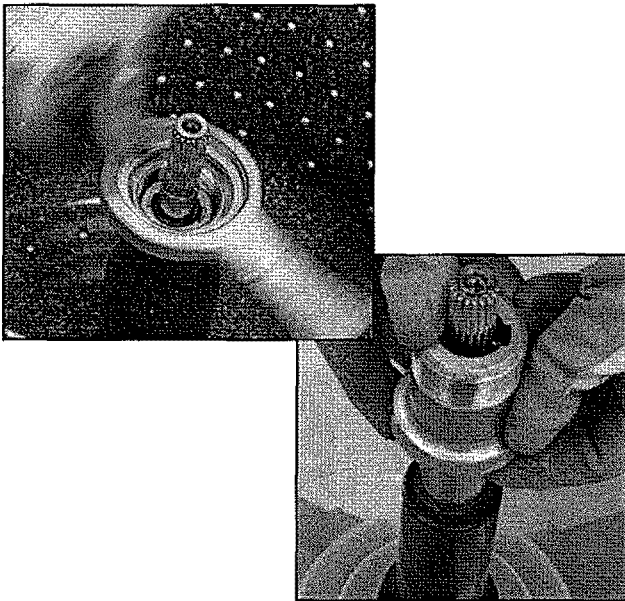

FIGURE 14
15. Remove Basket and Drive Block. See *Figure 14*.